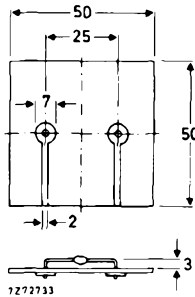

Fig. 2 Mounted on a printed-circuit board.
$T_{amb} = 45\text{ }^{\circ}\text{C}$ ; p.c.b. mounting (Fig. 2)
2. Thermal resistance from junction to ambient when mounted on a 1,5 mm thick epoxy-glass printed-circuit board; Cu-thickness  $\geq 40\text{ }\mu\text{m}$ ; Fig. 2
— =  $T_{tp}$ ; - - - =  $T_{amb}$ ; Fig. 2.